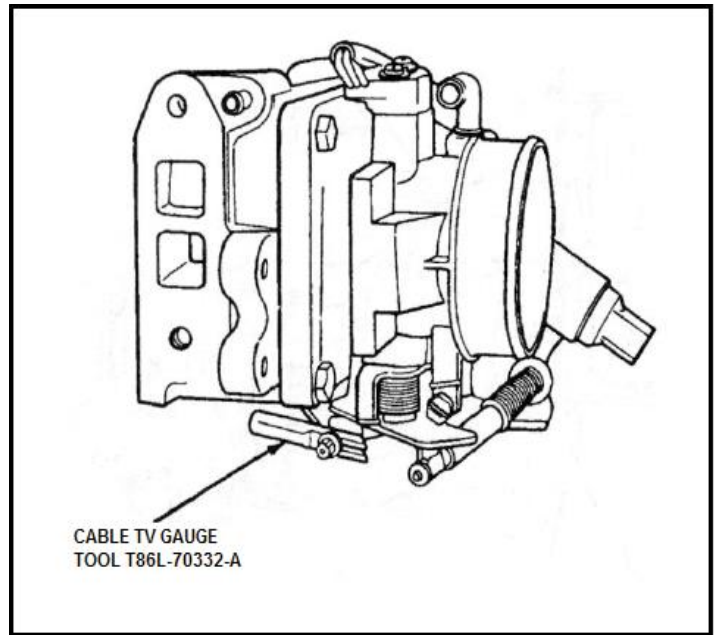

FIGURE 6
- 5.3 Insert tapered end of the tool between the crimped slug on the end of cable and plastic cable fitting that attaches to the throttle lever. (See Fig.6). Push in Cable TV Gauge Tool T86L-70332-A, or equivalent forcing the crimped slug away from the plastic fitting. Ensure gauge block is pushed in as far as it will go.